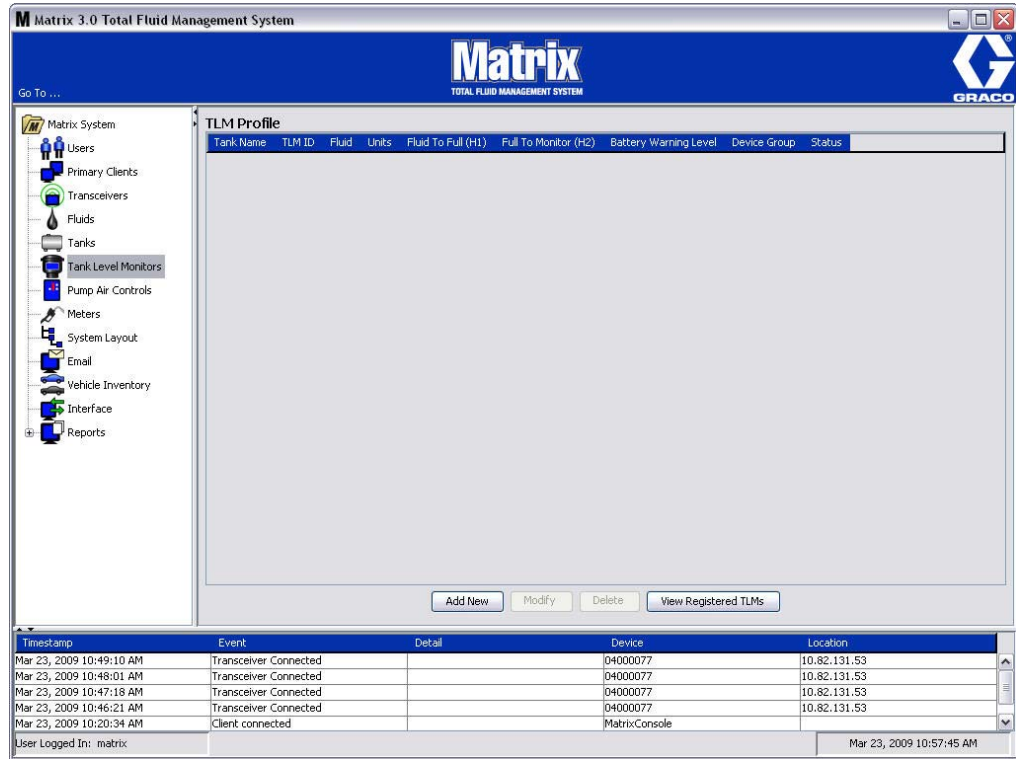

FIG. 123
The screen shown in FIG. 123 on page 92 is used to add, edit, remove and create a profile for the Tank Level Monitors (TLM's) in a Matrix system. Each Matrix tank level monitor (TLM) has embedded in it a unique device ID. The device ID is what differentiates one TLM from another.
2. To create a profile and add a new Tank Level Monitor to the Matrix system, click the Add New button (FIG. 123).